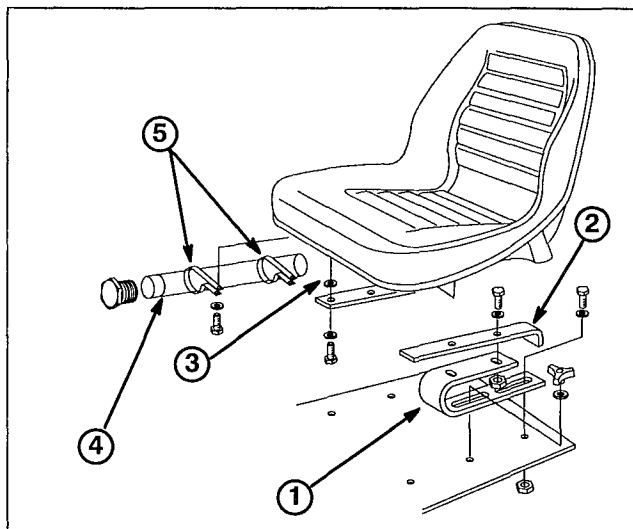

Figure 2
1. Attach "U" springs to seat mounting brackets using bolts and locknut as shown in (Fig. 2).
2. Install lockwashers and R-Clamps onto each mounting capscrew for the right seat mount. Insert the assemblies through the seat bracket holes and secure the bracket to the seat (Fig. 2). Install lockwashers onto each mounting capscrew for the left seat bracket and secure the bracket to the seat. Install manual tube into R-Clamps.